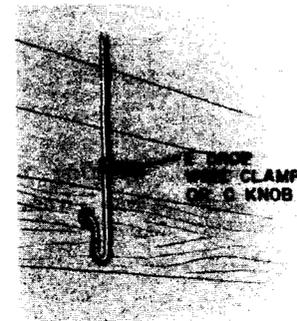

Fig. 16—Last Attachment, Building Entrance Slopes Upward from Outside
12.03 Figures 16 and 17 illustrate typical arrangements of last attachments.